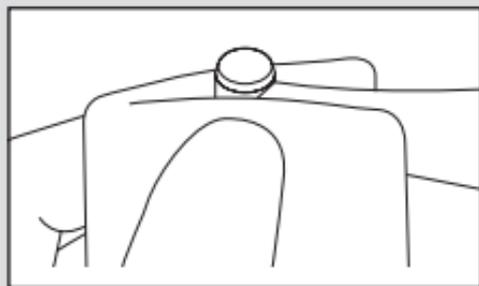
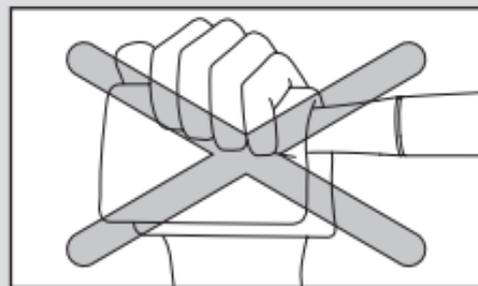

Fig. 19
Fig. 20
- If you wish to purge excessive oil from inside the handpiece, rotate the handpiece for approx 15 seconds without a bur. During the rotation, do not depress the push button, especially when using absorbent cloth to prevent oil from scattering. Depressing the push button during rotation may damage the chuck mechanism (Fig. 19, Fig. 20).